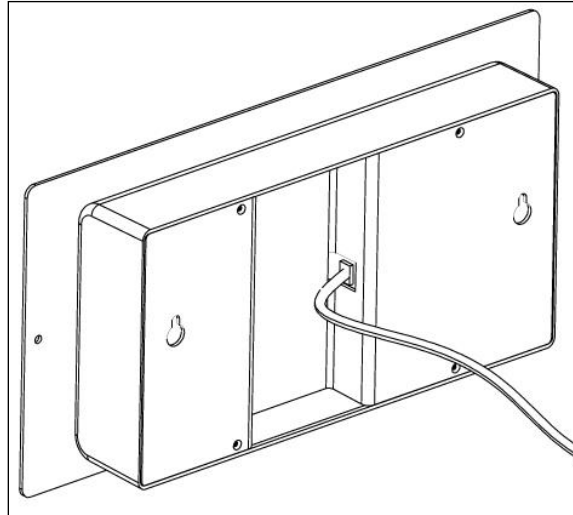

Figure 10: Data Cable Installation
7. Install the data cable in the rear of the clock as shown in Figure 10. The clock is now ready for installation.